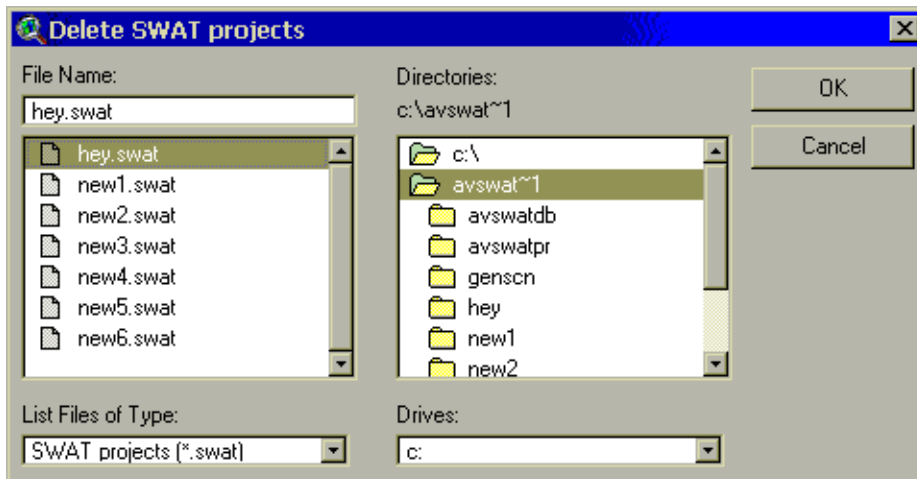

Figure 4.7
2. A browser will be displayed (Figure 4.7). If necessary, move to the proper directory. Type or click the name of the SWAT project log file (**.swat**) belonging to the project you wish to delete.